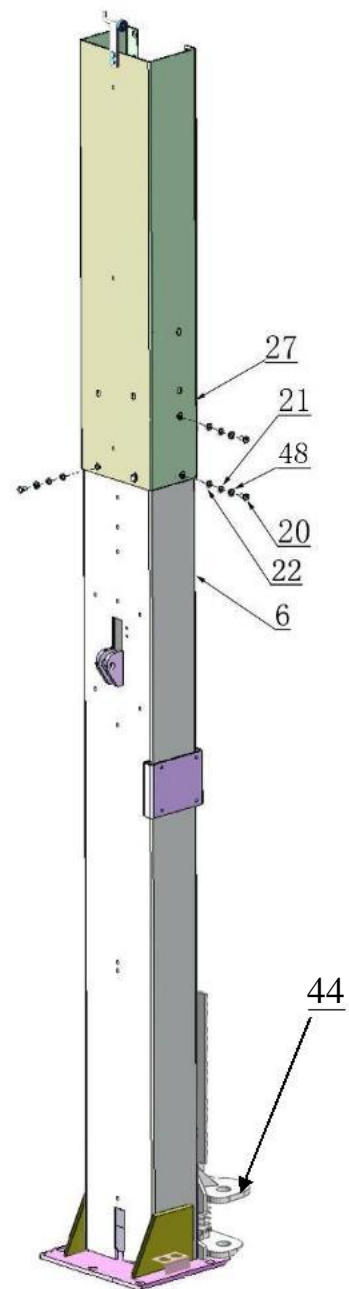

Fig. 14 High Setting
2. When the ceiling height is over 3850mm (151 1/2") for TP10AS, connecting the extension columns with the lower hole (**See Fig.14**).